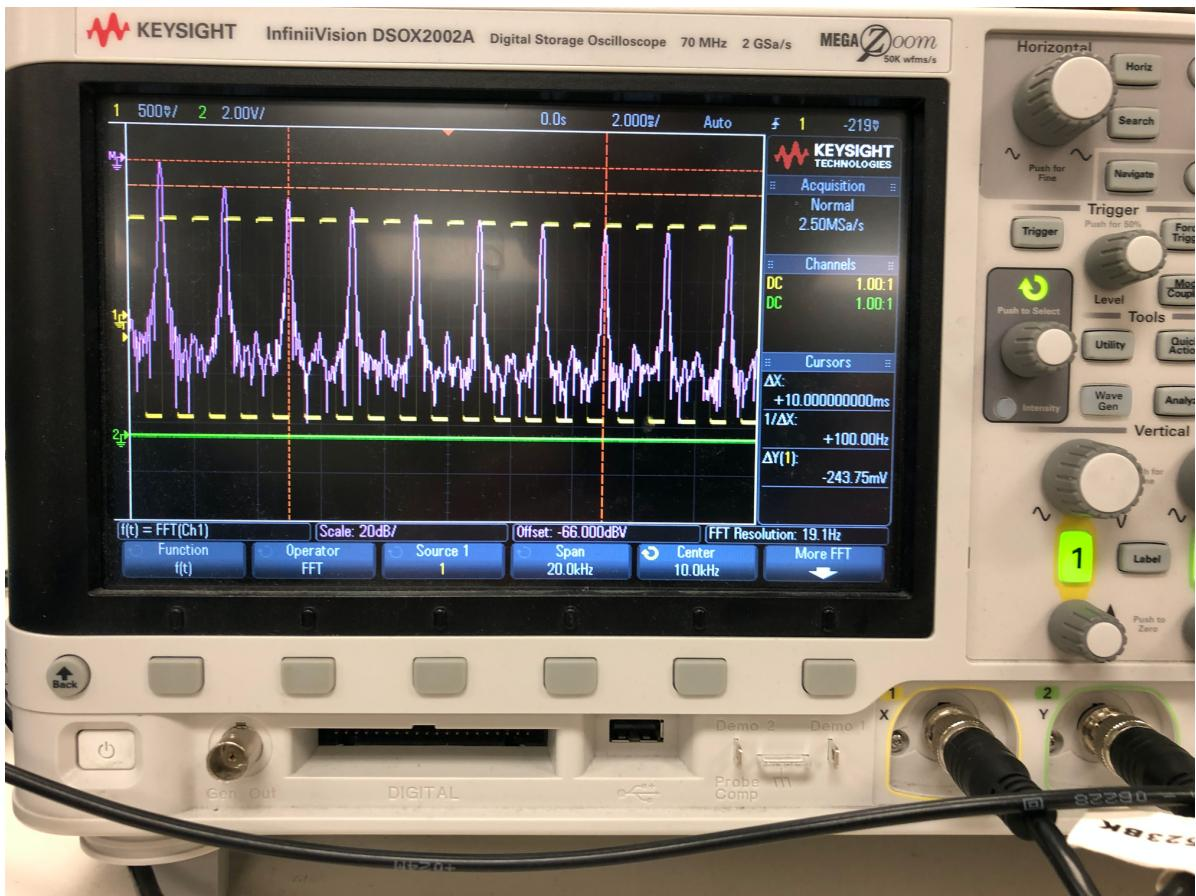

FIGURE 2-9 Adjusting the Span and Center
5. Adjust the "Span" of the spectrum to be around 20 kHz and the "Center" of the spectrum to be around 10 kHz (Figure 2-9). Now you are able to see a representative spectrum of a square wave.